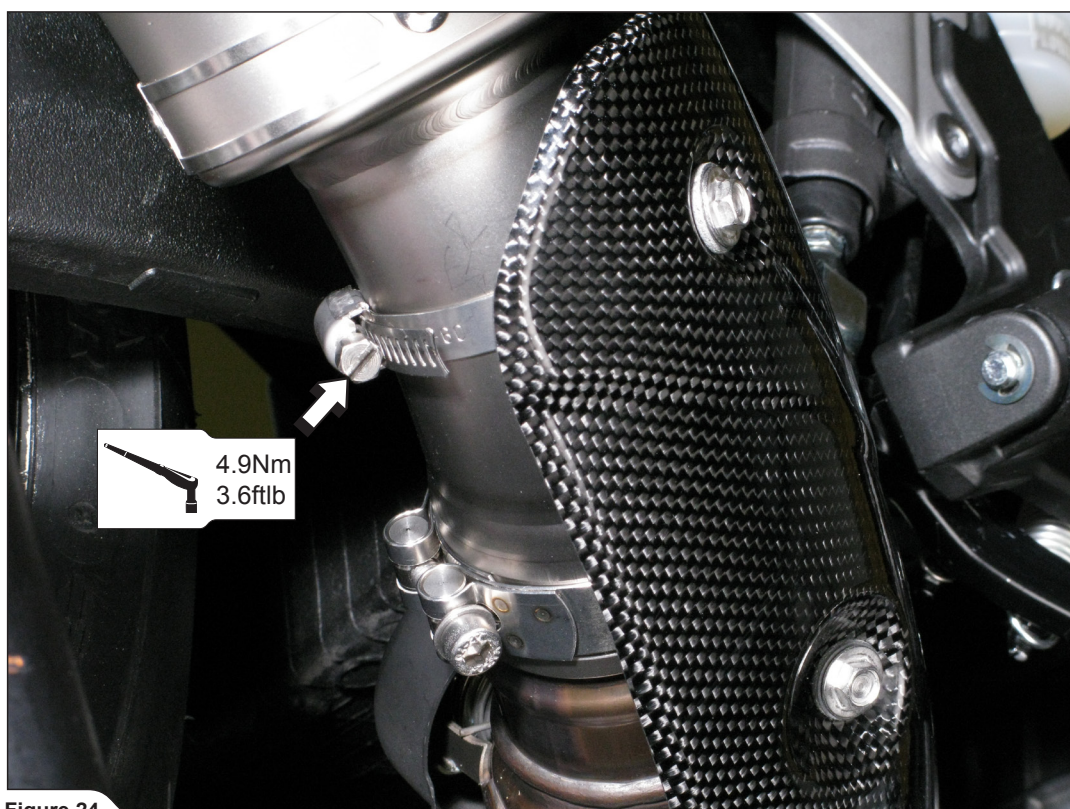

Figure 24
13. Tighten the heat-shield bracket's tape clamp to the specified torque (**Figure 24**).